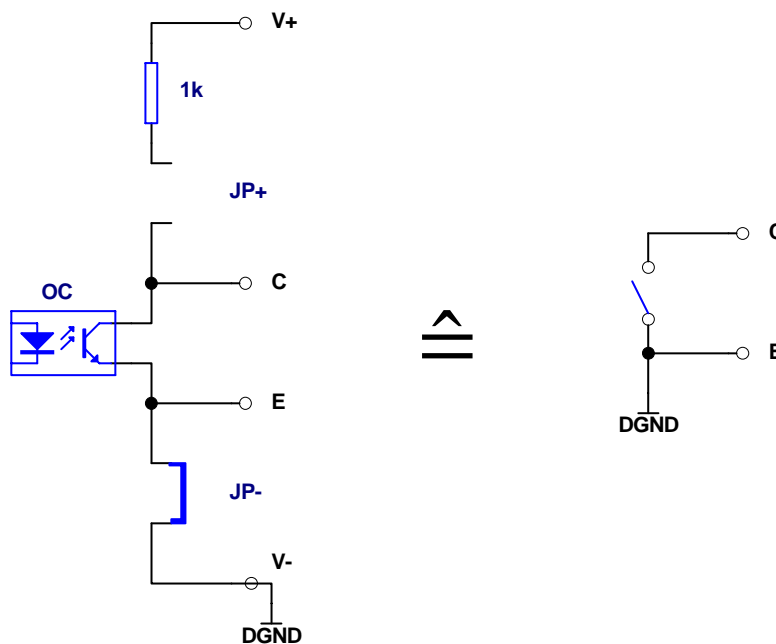

Fig. 3: Jumper JP- installed, Terminal V- grounded
When Jumper JP- is installed and Terminal V- is grounded as shown in Fig. 3 the switch also becomes grounded at its negative connection. In other words, the optocoupler then acts as a switch between Terminal C and ground, plus, ground is available at Terminal E.
3.2.2 JP- Installed (see Fig. 3)
| | Fig. 3, Section 3.2.2 |